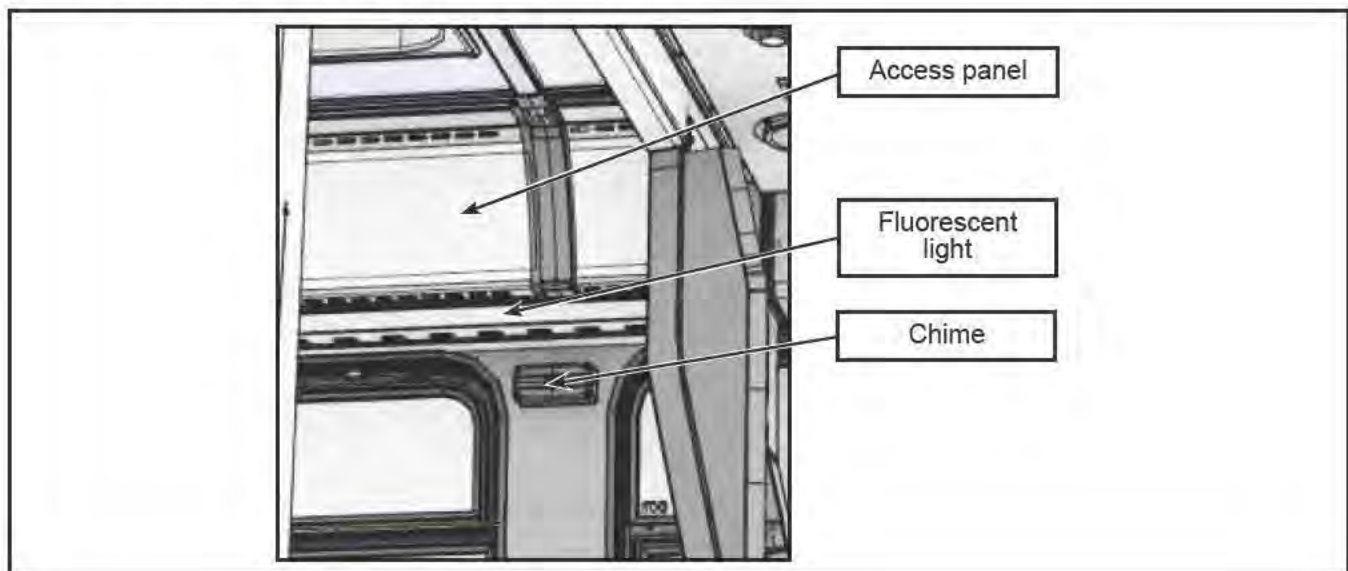

Figure 3 - Components to remove
- 1.9. Next to the ceiling, to access the hydraulic pipe N77549-01 (Figure 3), remove as needed:
- 1.10. Remove the chime (Figure 3).